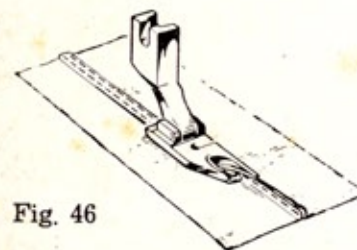

Fig. 46
- Insert edges in hemming foot scroll and sew as for normal straight stitch hem (Fig. 46).